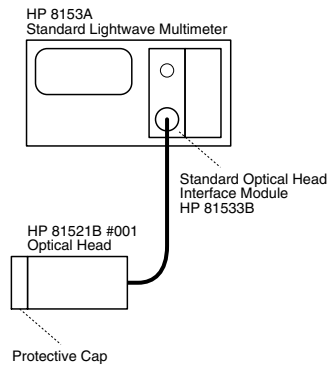

Figure D-9
- a Connect the equipment as shown in Figure D-9.